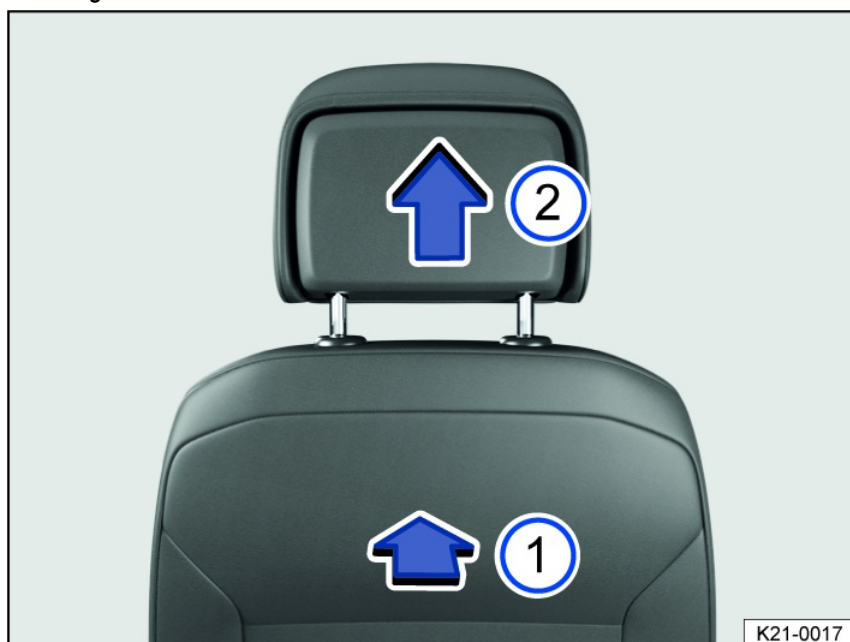

Fig. 85 General example: removing the front head restraint.
2. To release, find the notch on the rear side in the marked area, push inwards in the direction of the arrow and hold fig. 85.
3. Pull out the head restraint in the direction of the arrow fig. 85.